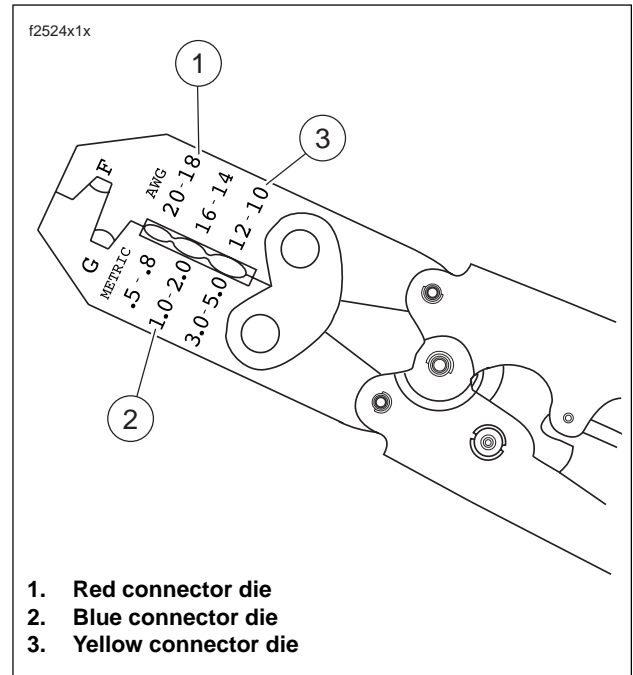

Figure B-15. Packard Crimping Tool (HD-38125-8)
1. See Figure B-15. Open the Packard Crimping Tool (HD-38125-8) ratchet by squeezing the handles closed.